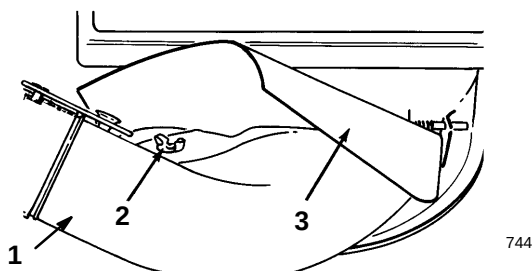

Figure 5
4. Slide the chute under the deflector on the mower, inserting the front of the chute into the v-bracket inside of the mower housing (Fig. 5).
5. Install and secure the rear of the chute onto the mounting pin on the mower housing with a wing nut (Fig. 5).
2. Remove the wing nut securing the chute to the mower and pull the chute out of the mower (Fig. 5).